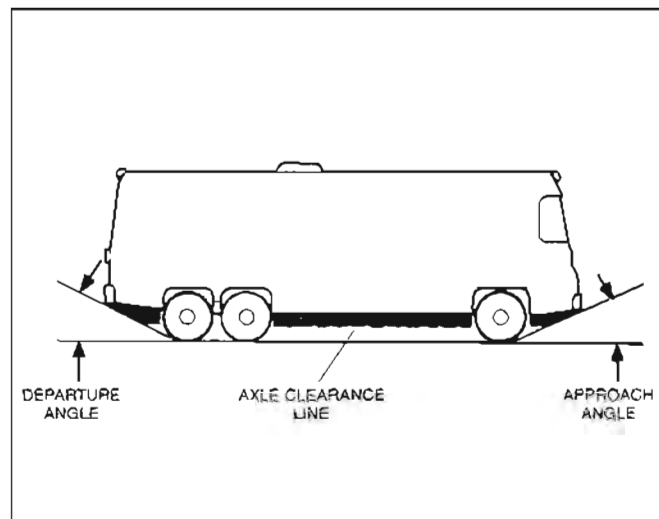

FIGURE 4. VEHICLE DEPARTURE ANGLE
4. To keep the tailpipe from being damaged, do not route it such that it protrudes into the approach or departure angles of the vehicle or below the axle clearance line (Figure 4).